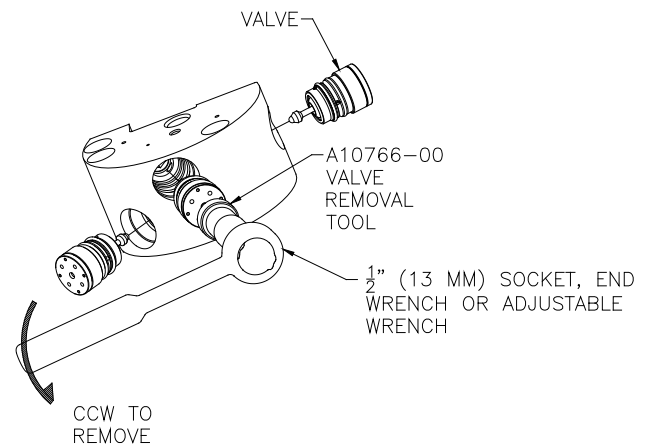

Figure 17: Valve Removal
Using the valve removal tool (A10766-00), engage the four (4) pins on the tool to the corresponding four (4) hole pattern in the top of the valve. Using a 1/2" (13mm) socket, end-wrench, or adjustable wrench, remove the valve by turning counter-clockwise, as shown in Figure 17.